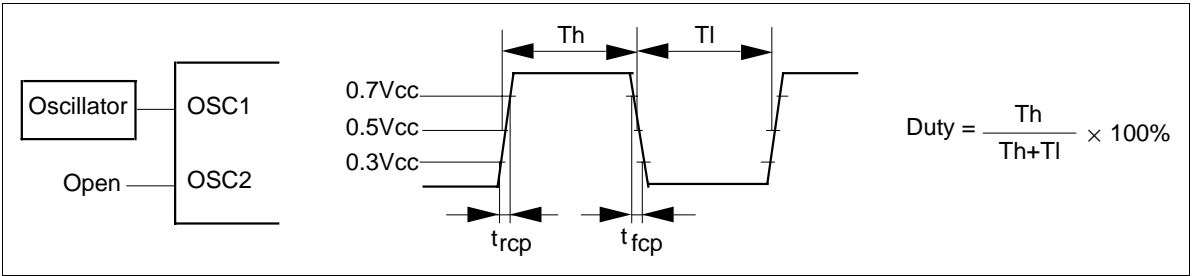

Figure 62 External Clock Supply
- 13. Applies to the external clock input (figure 62).